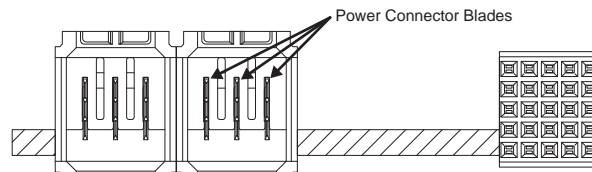

Figure 4.10 Power Connector Blade Inspection
2. Inspect the **Power Connector Blades** on your board (**Figure 4.10**) to ensure that they are not bent or damaged.